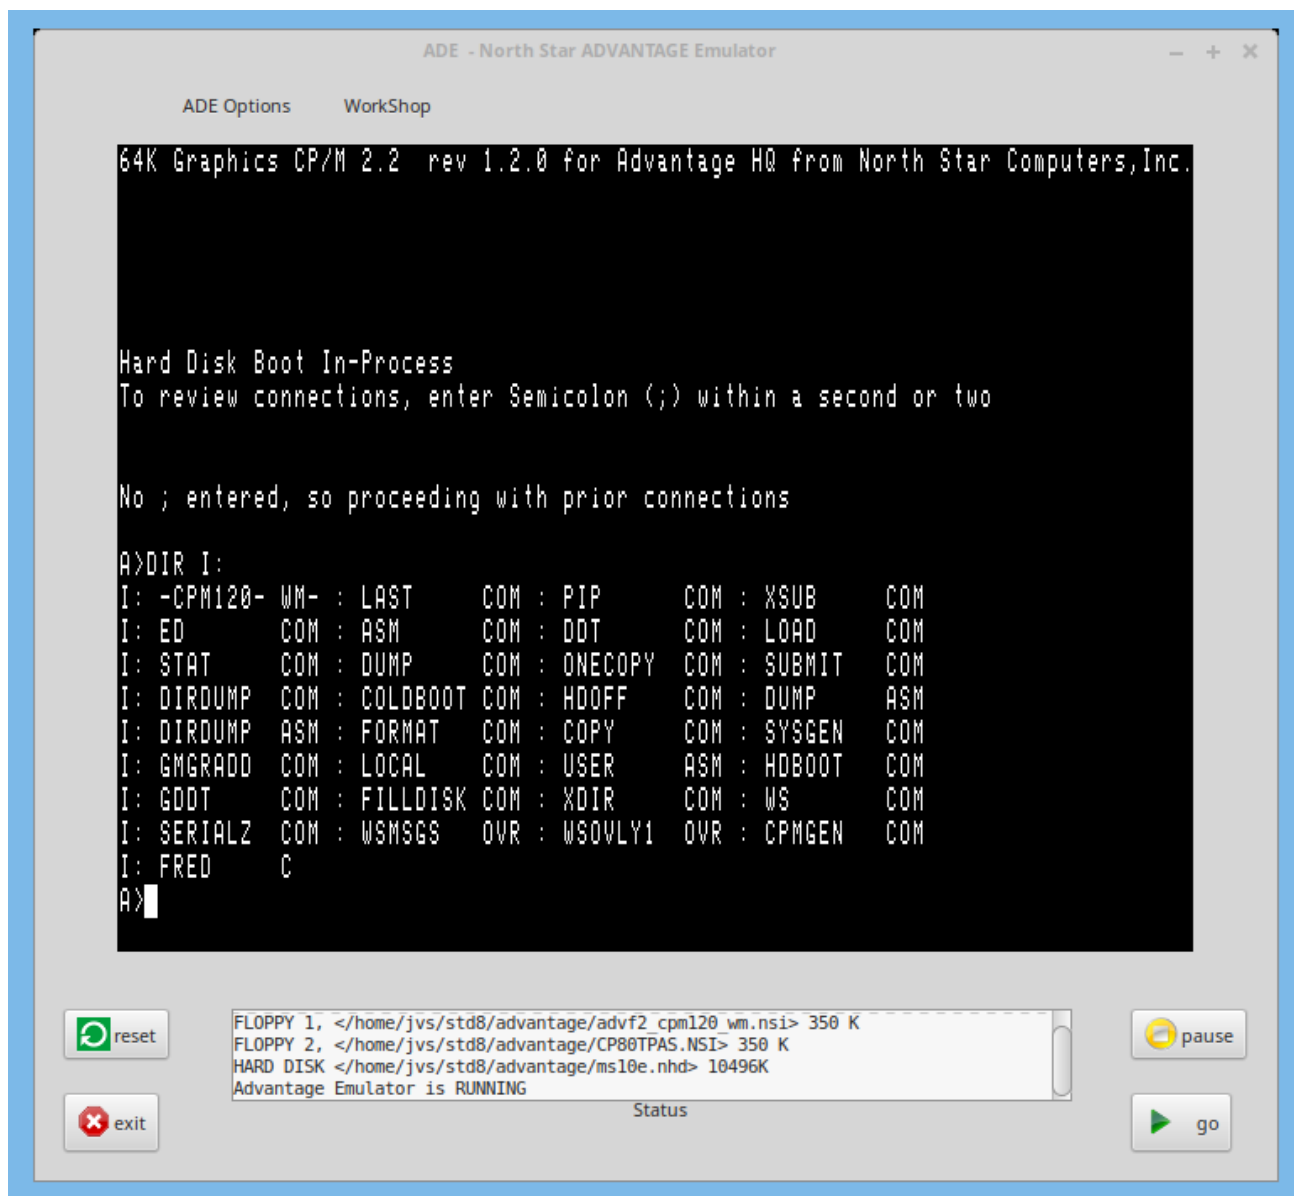

Fig. 3. CP/M Banner including Hard Disk Boot. Followed by a directory listing of the boot disk.
- Fig. 3, Page 10: CP/M Banner including hard Disk Boot.**